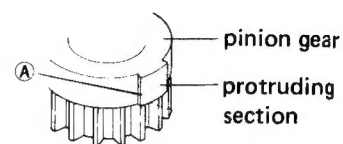

Fig. 4-2 Elimination of pinion gear protrusions
If there are rough areas of plastic protruding from the ① section of the protruding section of the pinion gear, the return function may operate at a pitch of only 1mm. In this case, remove the plastic protrusions completely (Fig. 4-2).